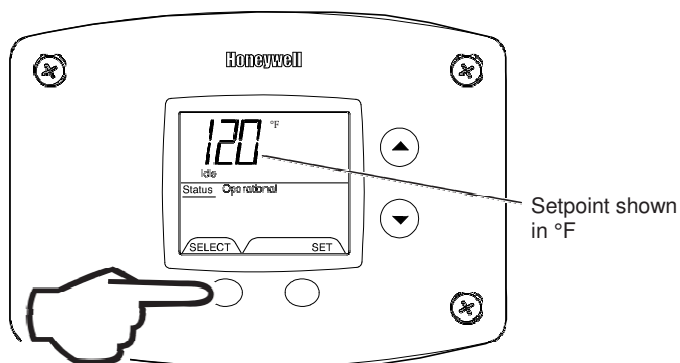

Fig. 58
5. Pressing 'Select' button will return display to setpoint in format selected (°F or °C) immediately (Fig. 58).